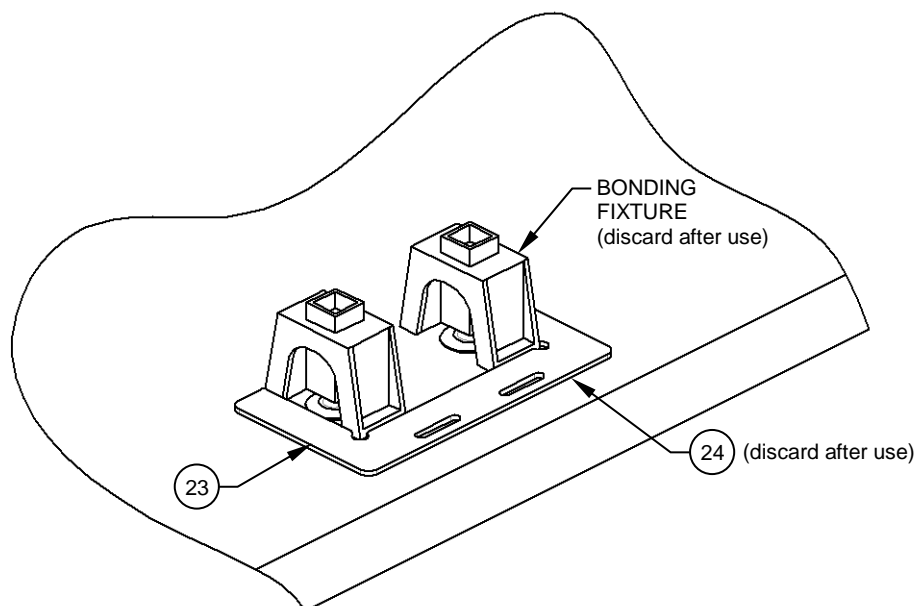

Figure A-1
3. Locate the Template, Detail (Item 24) on the avionics shelf and temporarily secure in place with masking tape. Reference Figure A-1.